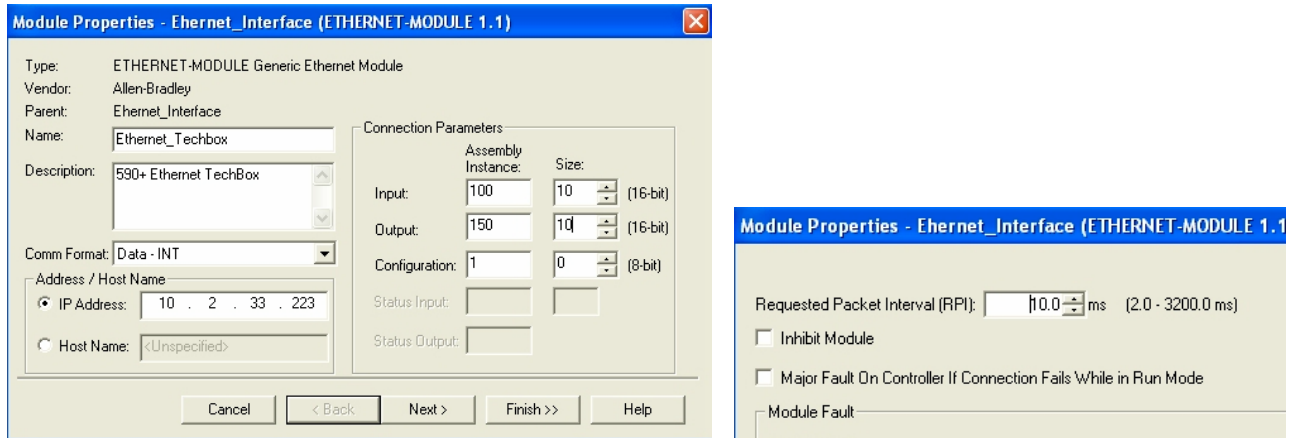

Figure 12. Generic Ethernet Module Setup
- Input the desired module name and IP address. The Comms format will be DATA Int. (16 bit). The Input Assembly Instance is 100 and the Output Assembly Instance is 150. The data size for the 590 Plus is 10 words and the data size for the 690 Plus is 18 words. Refer to Figure 12.
- Click on Next to change the Requested Packet Interval (RPI). The default value of 10ms should be sufficient. If The RPI is set below 5ms unreliable communications will be experienced. Refer to Figure 12.